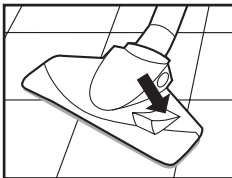

Fig.2
1. Hard floors (tiles, parquet, etc): the brushes on the combination floor tool must be lowered, by pressing the top of the rocker switch (Fig.2).